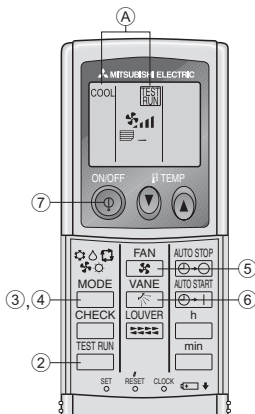

Fig. 7-2
7.2.2. Using wireless remote controller (Fig. 7-2)
- ① Turn on the power to the unit at least 12 hours before the test run.
- ② Press the [TEST RUN] button twice continuously. (Start this operation from the status of remote controller display turned off.) (A) and current operation mode are displayed.
- ③ Press the [MODE] button to activate COOL mode, then check whether cool air is blown out from the unit.
- ④ Press the [MODE] button to activate HEAT mode, then check whether warm air is blown out from the unit.
- ⑤ Press the [FAN] button and check whether fan speed changes.
- ⑥ Press the [VANE] button and check whether the auto vane operates properly.
- ⑦ Press the [ON/OFF] button to stop the test run.